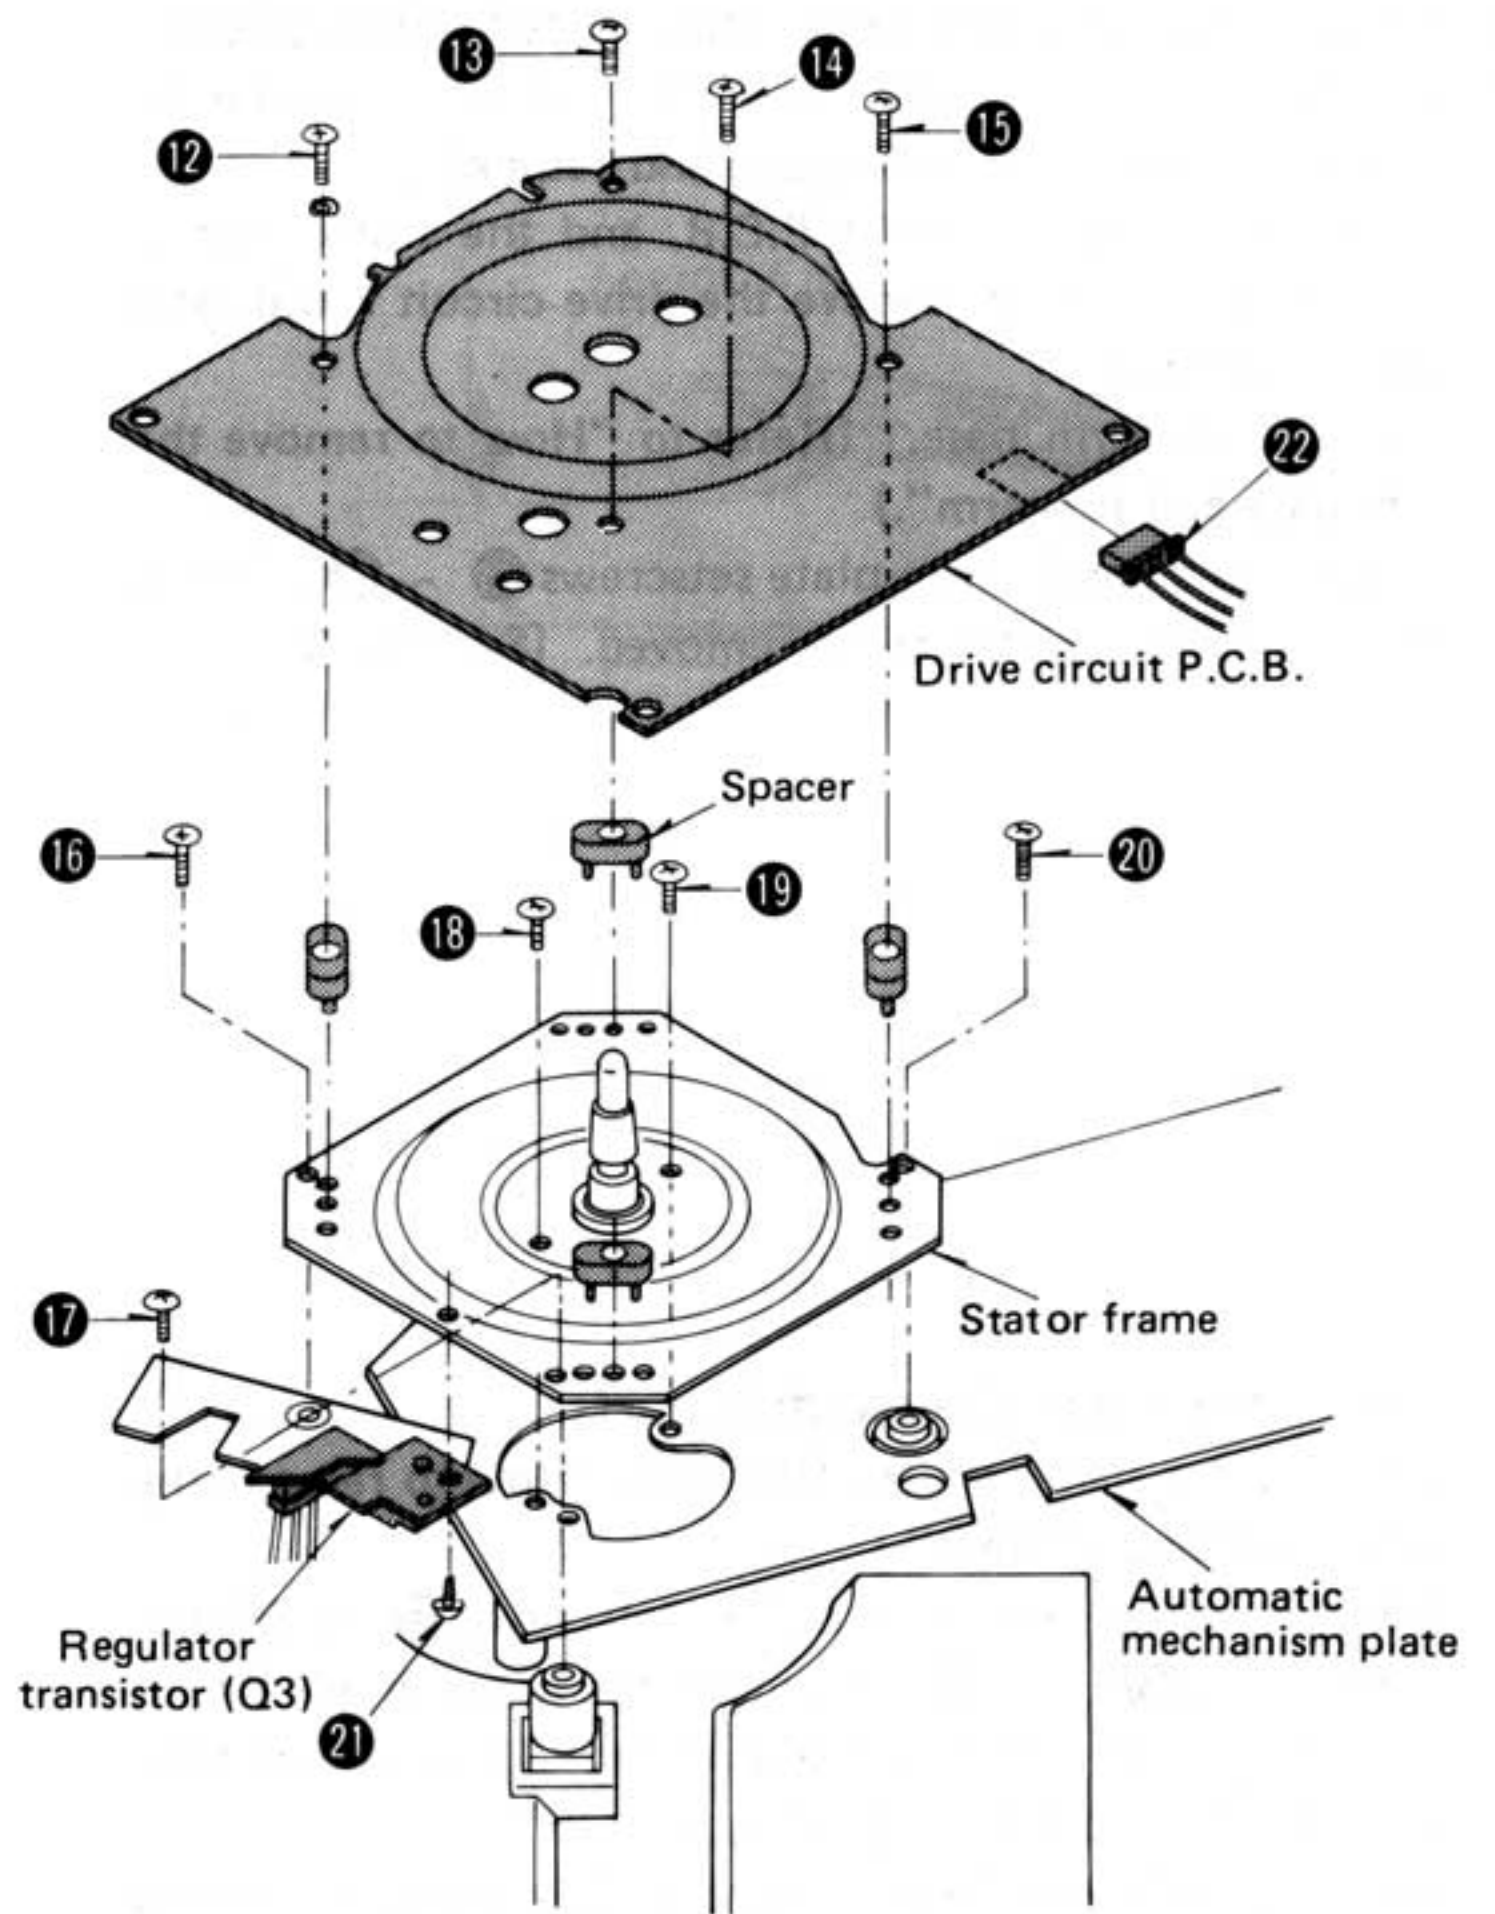

Fig. 5
2. Remove the drive circuit P.C.B. setscrews 12 ~ 15 . (See Fig. 5)
3. Remove the stator frame setscrews 16 ~ 20 . Remove the regulator transistor (Q3) setscrew 21 and connector 22 . Then, the drive circuit P.C.B. can be separated from the stator frame. (See Fig. 5)
4. When removing the drive circuit P.C.B. and stator frame together, remove the connector 22 and setscrews 16 ~ 20 . (See Fig. 5)